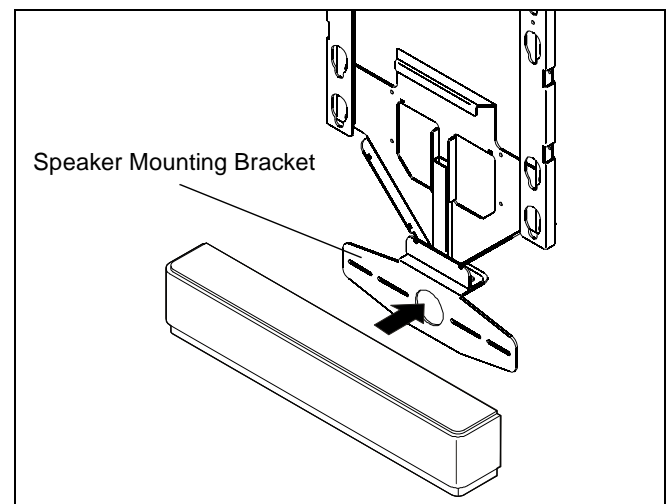

Figure 3
1. Mount speaker to speaker mounting bracket following the instructions provided with speaker. (See Figure 3)